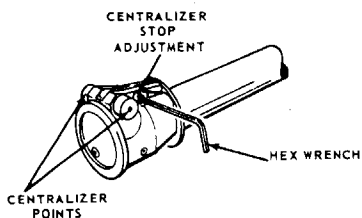

FIGURE 2
2. See Figure 2. Insert 5/64" Hex Wrench into Centralizer Stop Adjustment and rotate Stop Adjustment to retract or expand Points until they barely contact the walls of the bore.